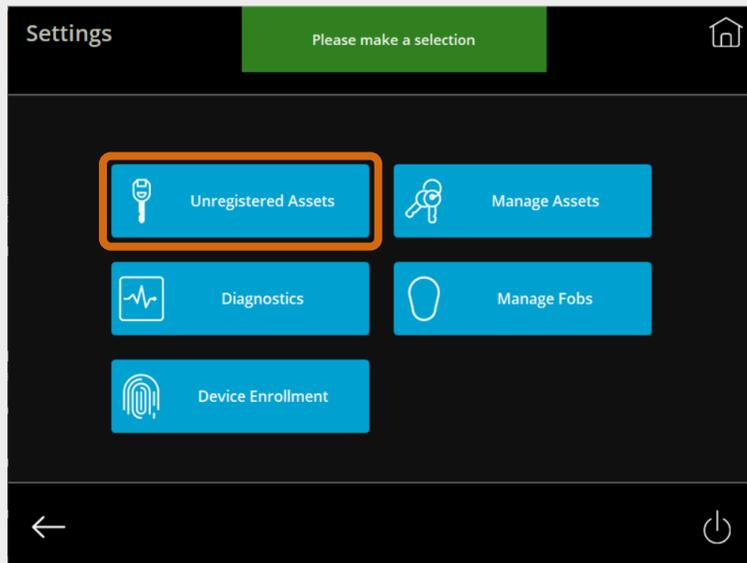

Fig. 50 – Kiosk admin Settings screen
3. Tap **Unregistered Assets** shown in Fig. 50 to display a list of all the blank fobs currently in the cabinet.